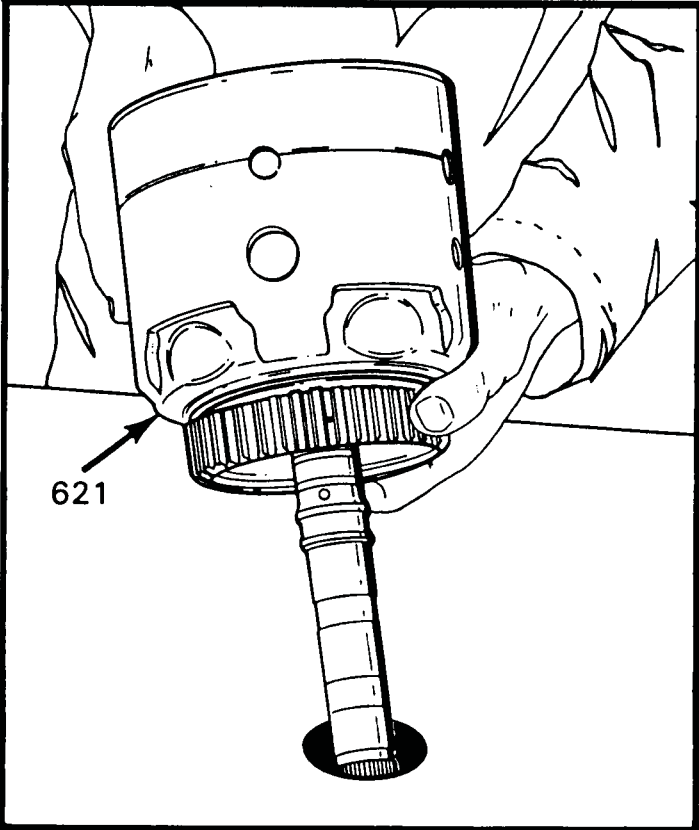

Figure 91
18. Place the input housing assembly on the bench, with the turbine shaft through a hole in the bench, shown in Figure 91.